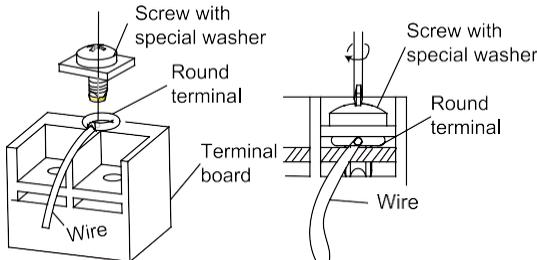

Fig.37
- 4) Position the round terminal wire, and replace and tighten the terminal screw with a screwdriver.(Fig.37)